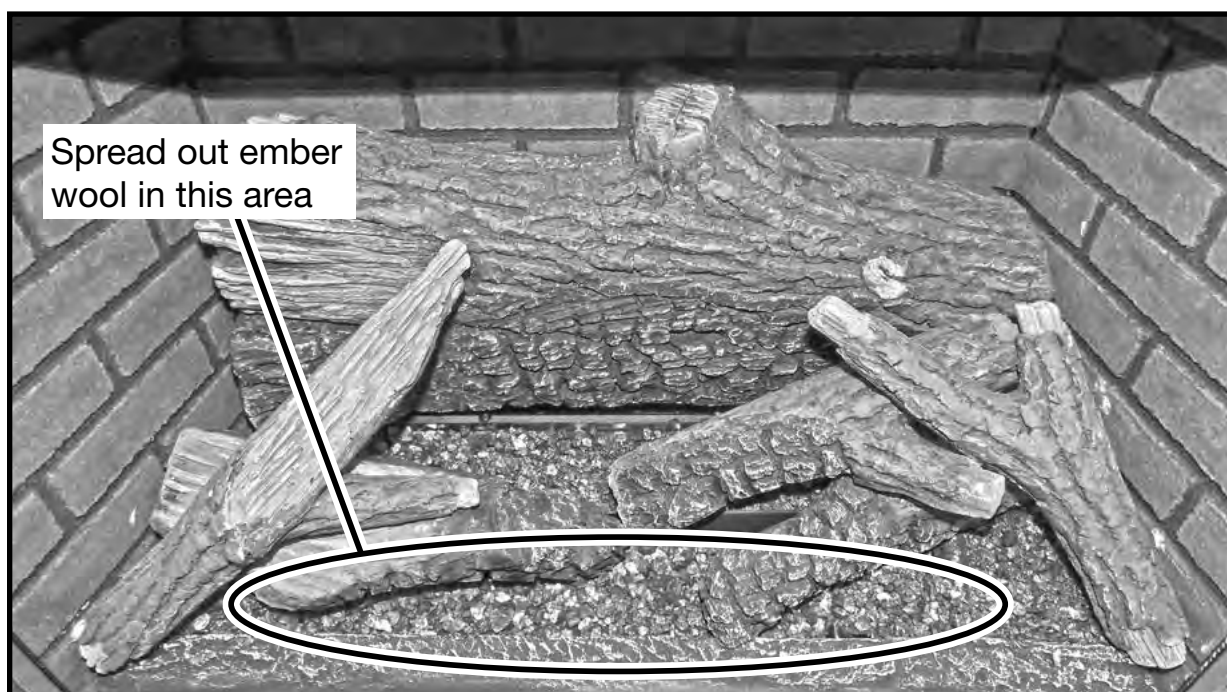

Figure 85: 6th log placement and ember wool distribution.
14. Place the 6th log (Figure 61) so that the top end rests on top of the 2nd log and the bottom end rests against the left wall panel and left base piece (Figure 85). The bottom end should be close to the front edge of the left base piece but not so close that it will be disturbed when re-installing the fireplace door.
16. Gently pull apart the individual pieces of the ember wool (Figure 63) so that they are not compressed or compacted and spread them in front of the logs to finish (Figure 85).